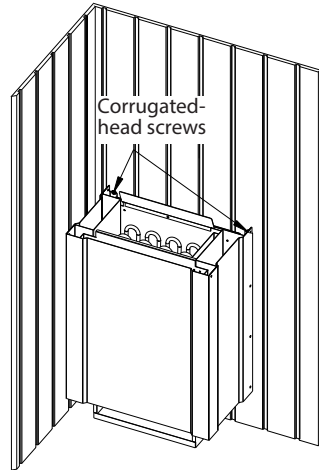

**Fig. 2**
2. Screw 4 fixing screws acc. Fig. 2 centrally into the cabin wall over the air inlet opening so that there is still 3 mm clearance between the wall and the screw head.